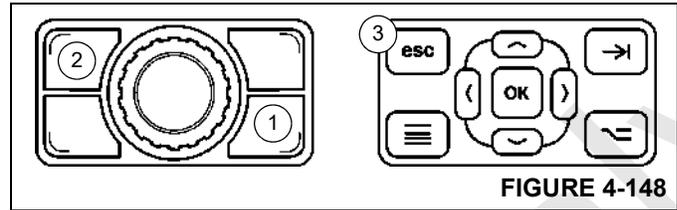

FIGURE 4-148
- Press the Screen Toggle Button (1), (Figure 4-148) at the Jog Dial to select the ODM screen control, then press the Escape Button (2), (Figure 4-148).
- Press the Escape Button (3), (Figure 4-148) on the Navigation Control Pad at the ODM.